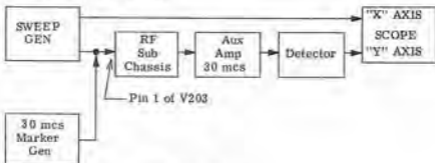

Fig. 5-2A Test Set-up
- b. Set up equipment as shown in Fig. 5-2A.